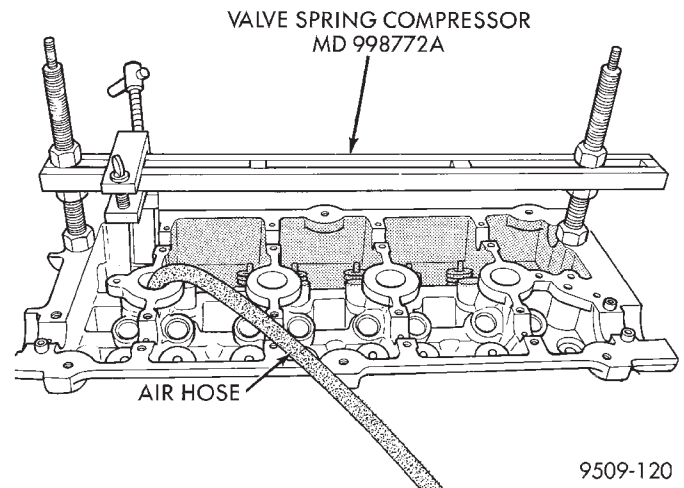

Fig. 48 Valve Spring—Removal/Installation
- (1) Remove camshafts as previously outlined in this section.
- (2) Rotate crankshaft until piston is at TDC on compression.
- (3) With air hose attached to adapter tool installed in spark plug hole, apply 90-120 psi air pressure.
- (4) Using Special Tool MD-998772-A with adapter 6779 (Fig. 48) compress valve springs and remove valve locks.
- (5) Remove valve spring.
- (6) Remove valve stem seal by a using valve stem seal tool.
(2) Install valve spring and retainer, use Special Tool MD-998772-A with adapter 6779 to compress valve springs only enough to install locks (Fig. 48). Correct alignment of tool is necessary to avoid nicking valve stems.
(3) Remove air hose and install spark plugs.
(4) Install camshafts as previously outlined in this section.
(5) Install cylinder head cover as previously outlined in this section.